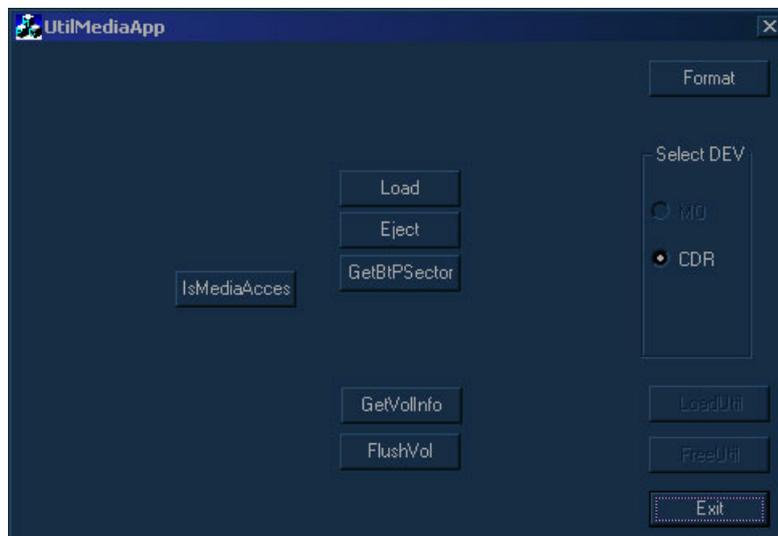

Figure 7-52 Util_MO_CDR_App Dialog Box
- 3) Trackball to the **Media Driver** button and press **Select**. The *Util_MO_CDR_App* dialog box is displayed, as shown in Figure 7-52 on page 7-78.